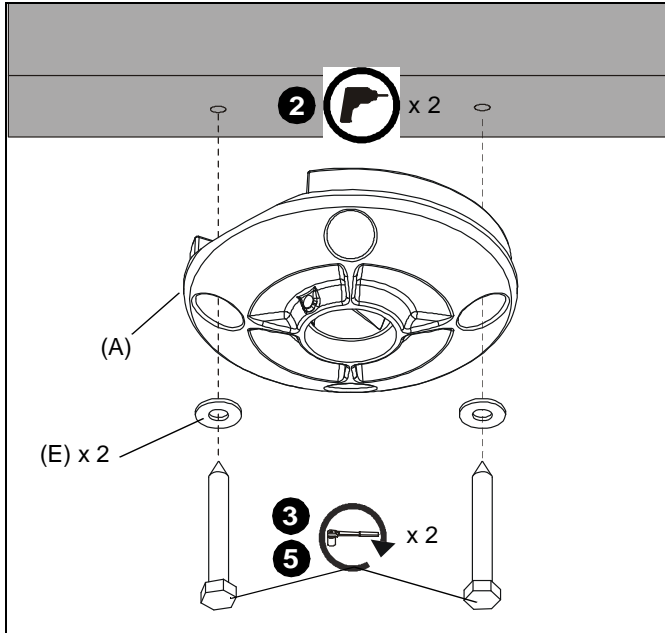
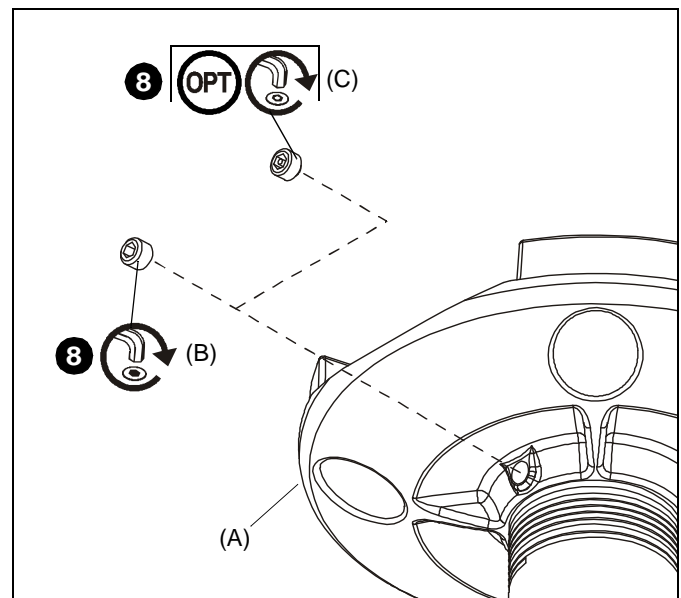

Figure 2
Figure 4
2. Drill 1/4" diameter pilot holes into wood joist (See Figure 2). Ensure pilot holes are straight.
3. Using 9/16" socket wrench, loosely install two (minimum) Grade 2 (not included) 3/8" x 2-1/2" lag screws through 3/8" washers (E), ceiling plate (A), into wood joist (See Figure 2). Do not tighten plate (A) against ceiling at this time to accommodate cable installation.
5. Tighten lag screws (See Figure 2).
7. Using pipe wrench, install 1-1/2" NPT or NPSM following ANSI/ASME B1.20.1 (Schedule 40, 0.154" minimum thickness aluminum - ASTM B221) threaded extension column (not included) into threaded collar of ceiling plate (A) until tight, with a minimum of four threads engaged.
8. Using hex key (D), secure extension column by *one* of the following methods (See Figure 4):
- Install one 5/16" x 1/4" set screw (B) into threaded hole, tightening firmly against column.
- **OPTIONAL:** Install one 5/16" x 1/4" security set screw (C) into threaded hole, tightening firmly against column.